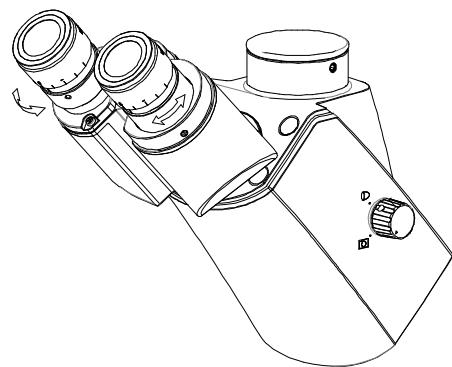

Fig.10 Adjustment Of Diopter
3.3.2 Adjustment of Diopter (Fig.10)